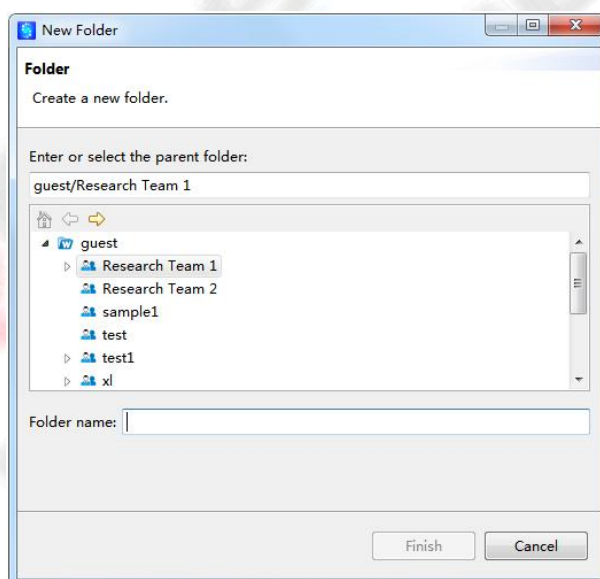

Figure 1.70 New research project dialog in the research team node
① New Study: Create a new research project (Figure 1.70), which is under Research Team path and can further contain directories.